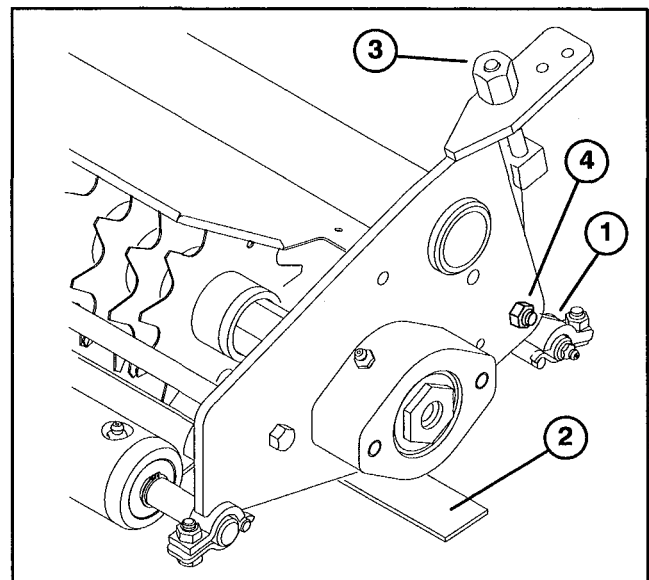

Figure 1
ADJUSTING REEL BLADES FOR POSITIVE SETTING (Above ground) (Fig. 1)
2. Loosen (2) locknuts on carriage bolts securing rear wheel brackets to dethatcher frame (Fig. 1).